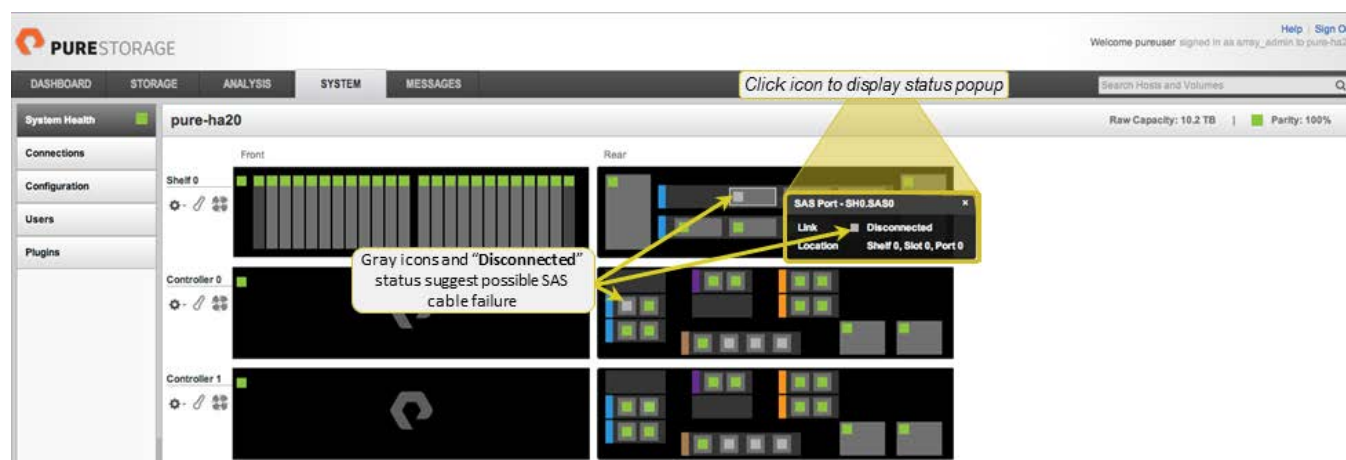

Figure 1: GUI Indication of Possible SAS Cable Failure
- Two interconnected SAS ports reporting Disconnected (Figure 1).